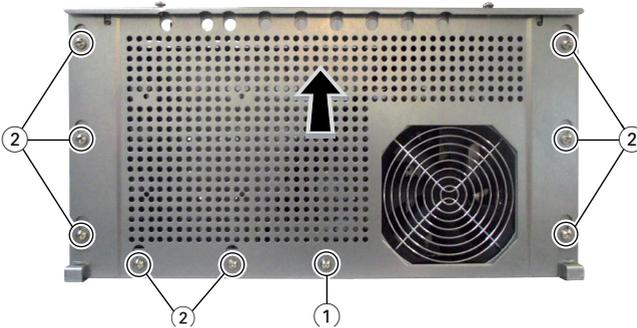

Fig. 26
- Position the breakthroughs in the base plate above the fastening screws ② (fig. 26).
- Push the base plate in direction of the arrow and lock it with the locking screw ① (fig. 26).
- Tighten the fastening screws ②.